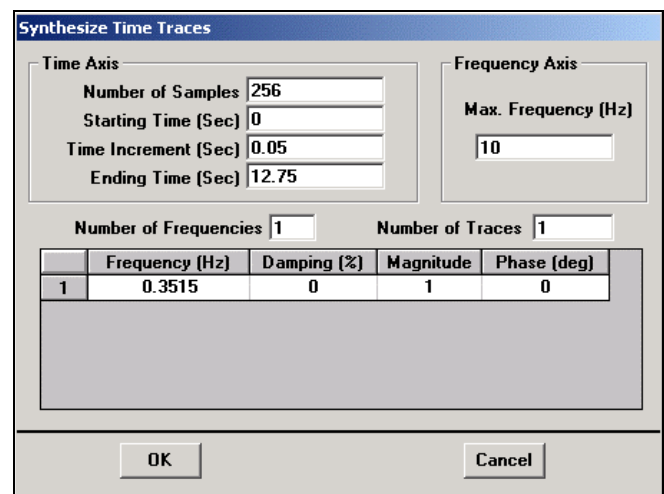

Figure 12. Dialog Box for Non Periodic Sine.
- Enter the following numbers into the dialog box (as shown in Figure 12),